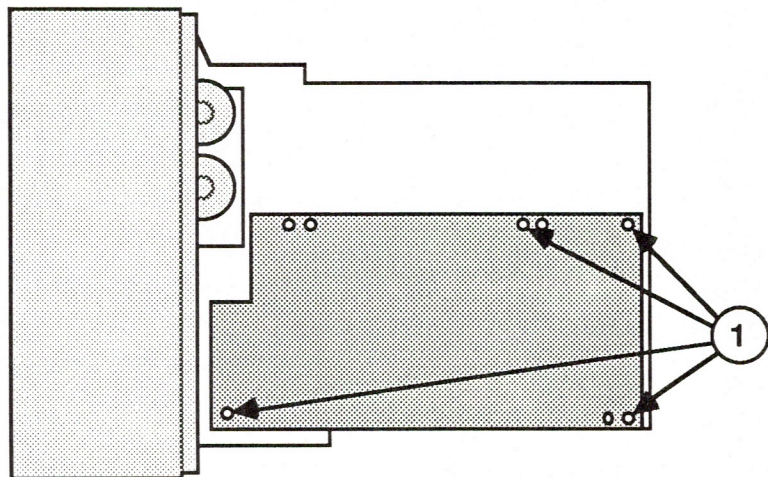

FIGURE 3
4. Remove the four screws that fasten the logic board to the metal chassis frame (Figure 3, #1).